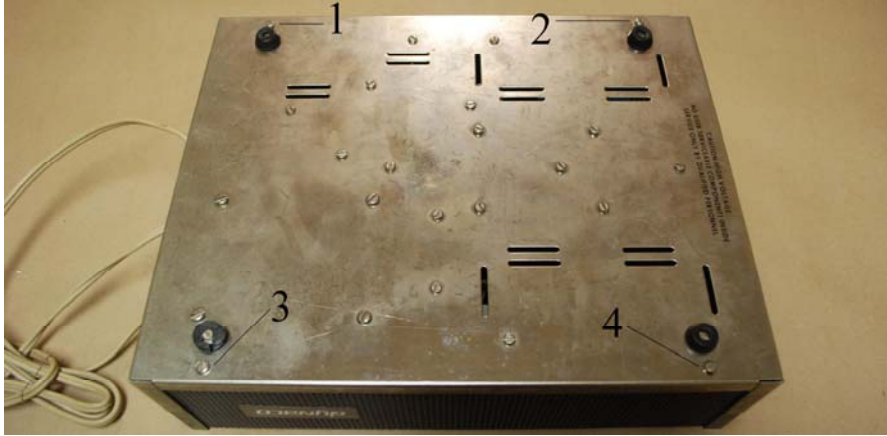

Figure 1-Location of the four screws that hold the cover to the base
2. Remove the four screws along the outside edge of the bottom that hold the cover in place (see Figure 1).